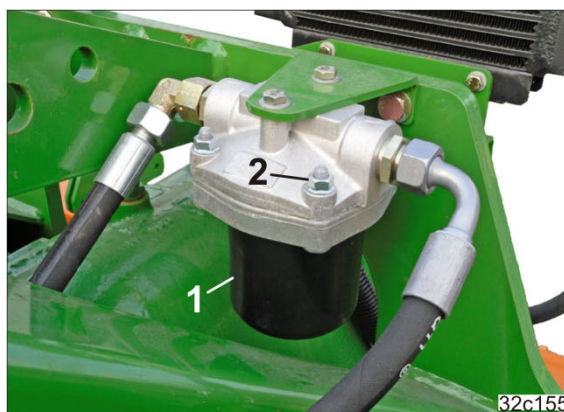

Fig. 135
1. Remove the oil filter cartridge (Fig. 135/1).
- 1.1 Undo the screws (Fig. 135/2).